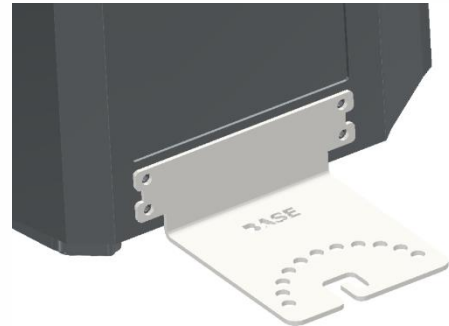

Figure 1
Unscrew the four (4) screws on the top of the speaker and remove the handle. Then unscrew the four (4) screws on the bottom of the speaker. Then take the Base fin and orientate it so the largest side faces down as shown in figure 1. Screw in four (4) mounting screws.